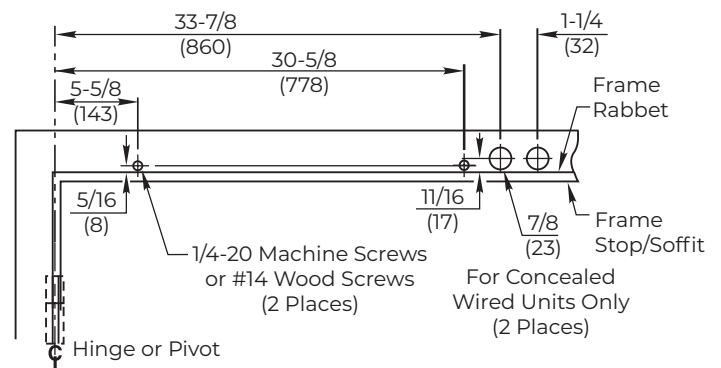

Figure 3 Left Hand Shown
3. Using template on page 26, prepare mounting holes for screws. (Figure 3)
- c. Drill/tap two (2) 1/4-20 holes for steel frame or two (2) #14 holes for wood frame at marked locations.
- c. Drill two (2) 7/8" diameter holes in frame at marked locations.
**For Metal Frame:** Use two (2) 1/4-20 x 1" flat head machine screws.
**For Wood Frame:** Use two (2) #14 x 1-1/2" oval head self-drilling screws.